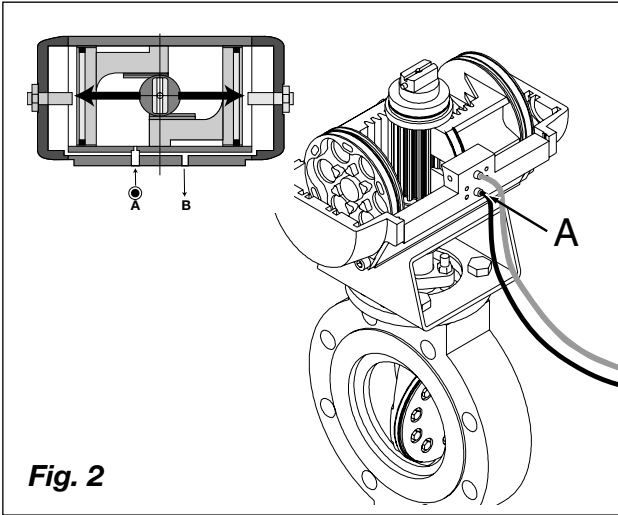

Fig. 2
- be in compliance with the following schematics in Fig. 2 to 5.